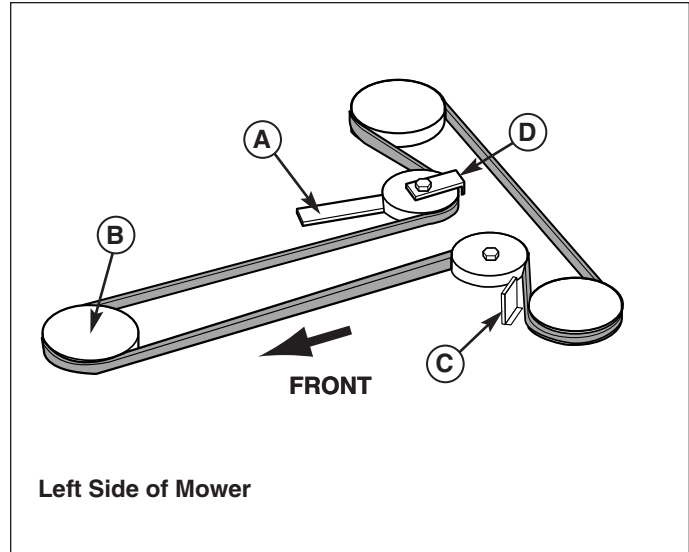
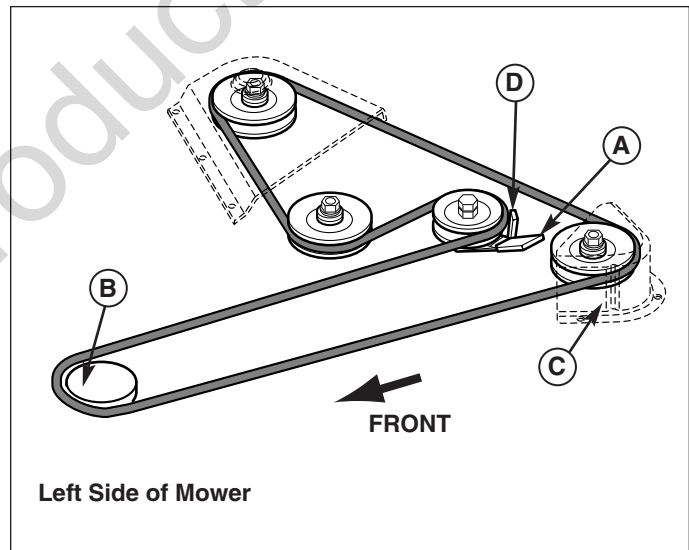

Figure 36. Typical Mower Belt Routing - Two Blade Decks
Figure 37. Typical Mower Belt Routing - Three Blade Decks
3. Push the idler arm (A, Figure 36 or 37) to relieve belt tension. Drop the belt from the PTO (electric clutch) pulley.
4. Loosen the mower upstop (C, Figure 36) or belt cover (C, Figure 37).
6. Position the mower upstop (C, Figure 36) in its original position. There must be 1/8" (3 mm) clearance between the mower upstop and pulley.
7. Position the idler pulley belt guide (D, Figure 36 or 37) in its original position up against arm (A) so that there is a 1/8" (3 mm) gap between the pulley and belt guide.